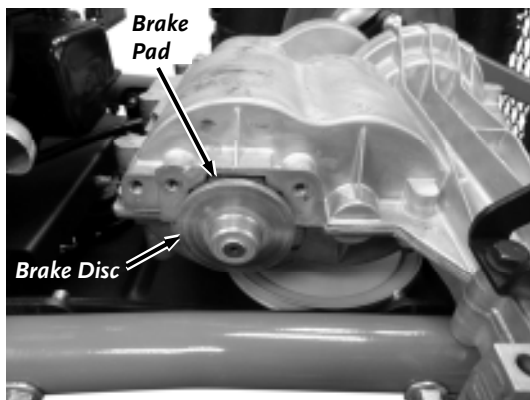

Figure 54
6. Pull the Brake Disc off the splined Shaft and remove the Brake Pad (Figure 54).